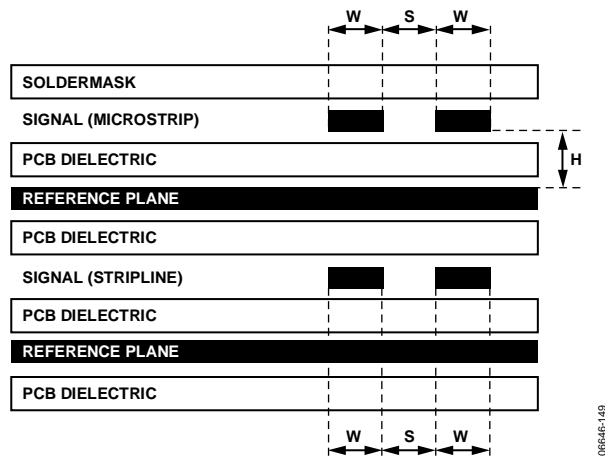

Figure 48. Example of a PCB Cross-Section
The high speed differential inputs and outputs should be routed with $100\ \Omega$ controlled impedance differential transmission lines. The transmission lines, either microstrip or stripline, should be referenced to a solid low impedance reference plane. An example of a PCB cross-section is shown in Figure 48. The trace width (W), differential spacing (S), height above reference plane (H), and dielectric constant of the PCB material determine the characteristic impedance. Adjacent channels should be kept apart by a distance greater than $3\ W$ to minimize crosstalk.